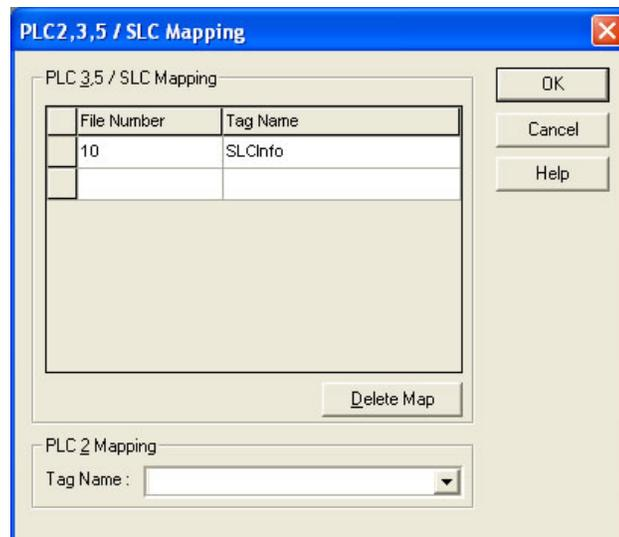

**Figure 6: Viewing the SLCInfo Tag**
- The SLCInfo tag should now be visible in the “Controller Tags” window (refer to Figure 6).